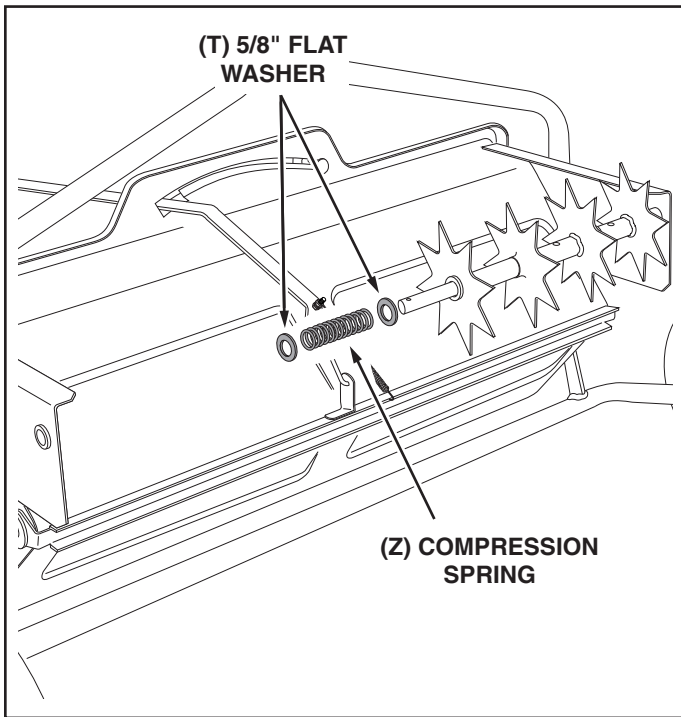

FIGURE 16
35. Place a 5/8" flat washer, the compression spring and another 5/8" flat washer onto the shaft. See figure 16.